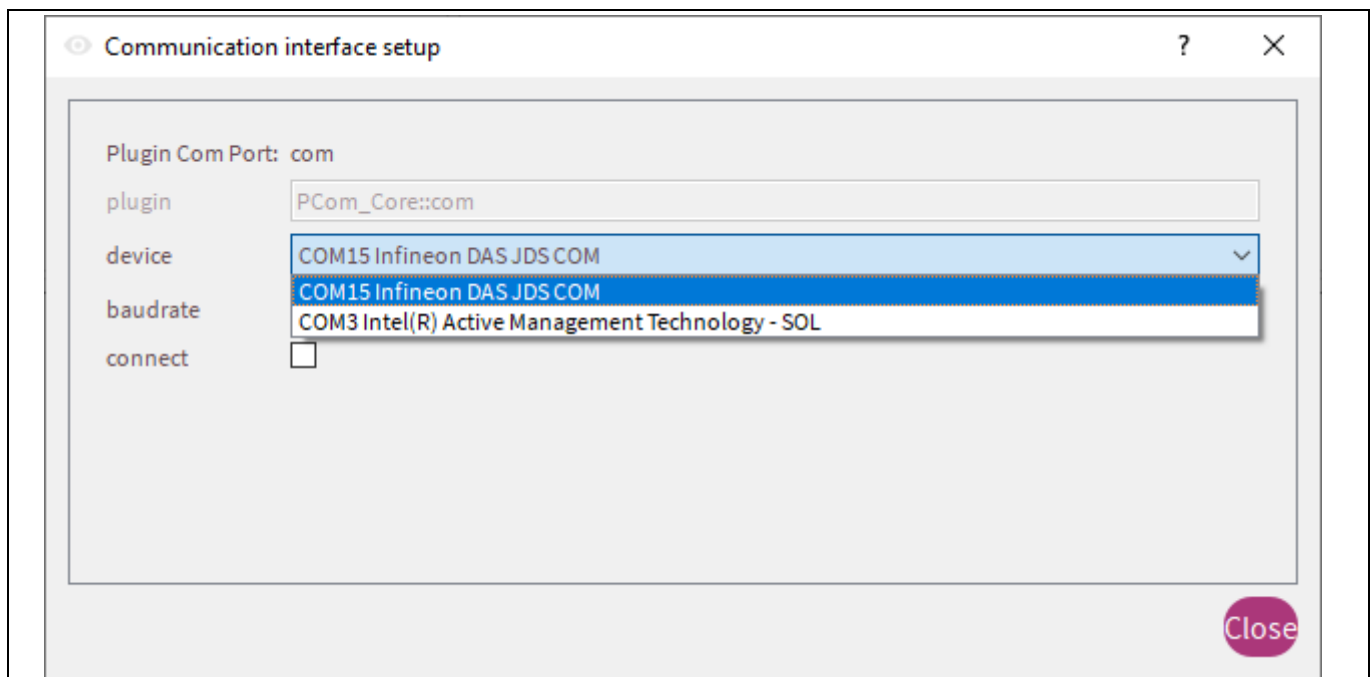

Figure 8 Communication interface setup
3. If not, check if the connection is setup correctly via the window shown in Figure 8.